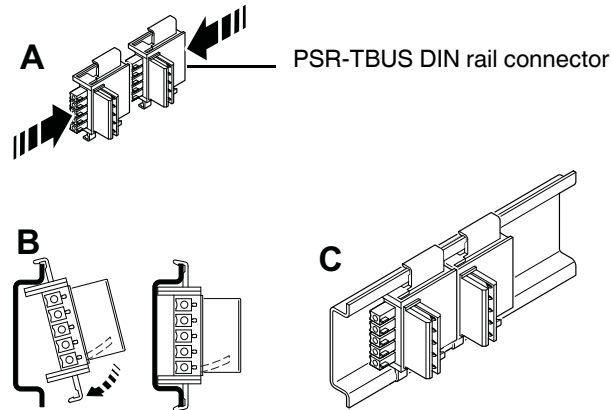

Figure 3-9 Mounting PSR-TBUS DIN rail connectors
- Connect together the required number of PSR DIN rail connectors for the connection station (see Figure 3-9, A).